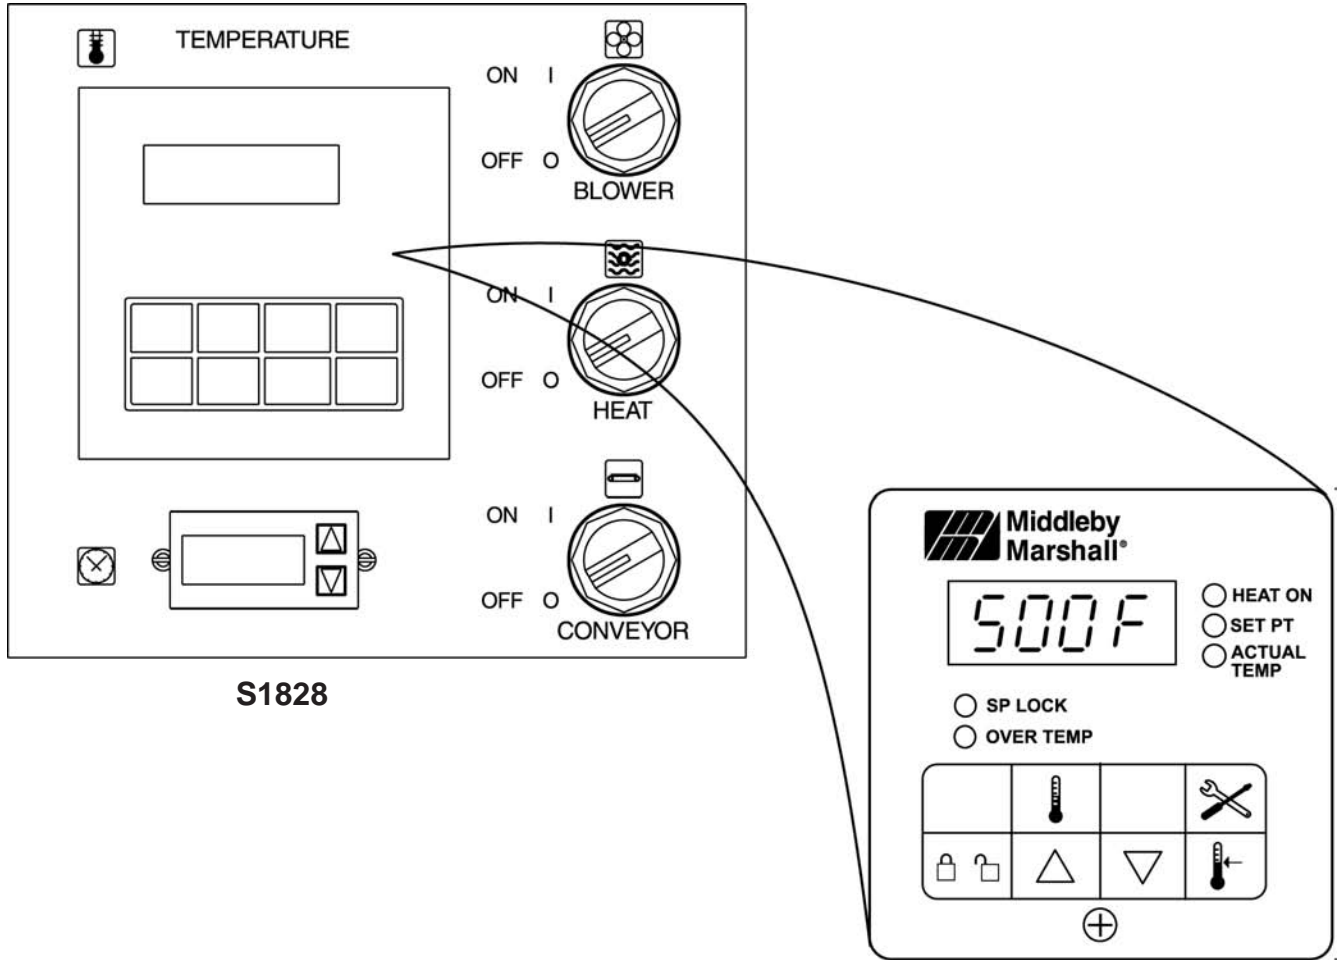

Figure 3-6. Control Panel
1. Turn the BLOWER switch (Figure 3-6) to the "ON" or "I" position. This starts the main blower fan and the cooling fans. The blower circulates air through the air fingers and must stay on during the cooking or baking process.
2. Check to see if the cooling fans (see Figure 1-8) are operating when the blower switch (see Figure 3-6) is turned "ON" or "I". The cooling fans cool the control components and blower motor. The cooling fans, located at the rear of the oven blows air into and through the cabinet. Air is exhausted through the front of the cabinet and also out the front of the oven. Refer to Daily Maintenance Section for fan intake checking procedure.
3. Turn the CONVEYOR switch (Figure 3-6) to the "ON" or "I" position. This starts the conveyor belt moving through the oven. Set the conveyor speed for the desired baking time. Refer to the following Procedures E, F and G.
5. Turn the HEAT switch (Figure 3-6) to the "ON" or "I" position. This completes a circuit to supply electric power to the electric heating system. 6. Oven will reach a baking temperature of 500°F (232°C) in approximately 20 minutes. Allow the oven to cycle for 30 minutes after it has reached desired bake temperature. The oven is now ready for baking.